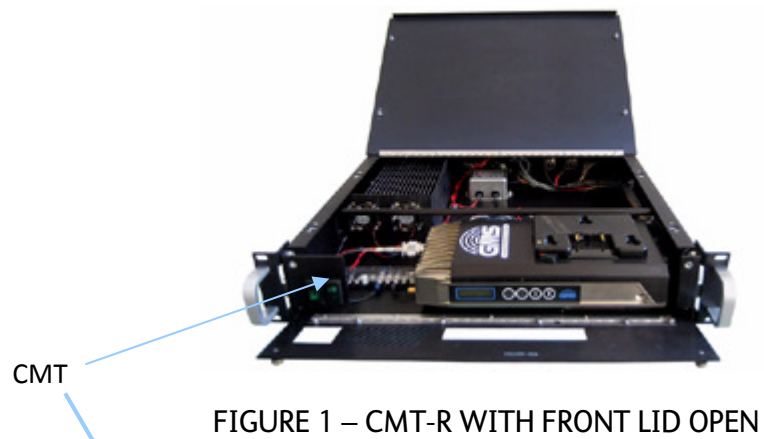
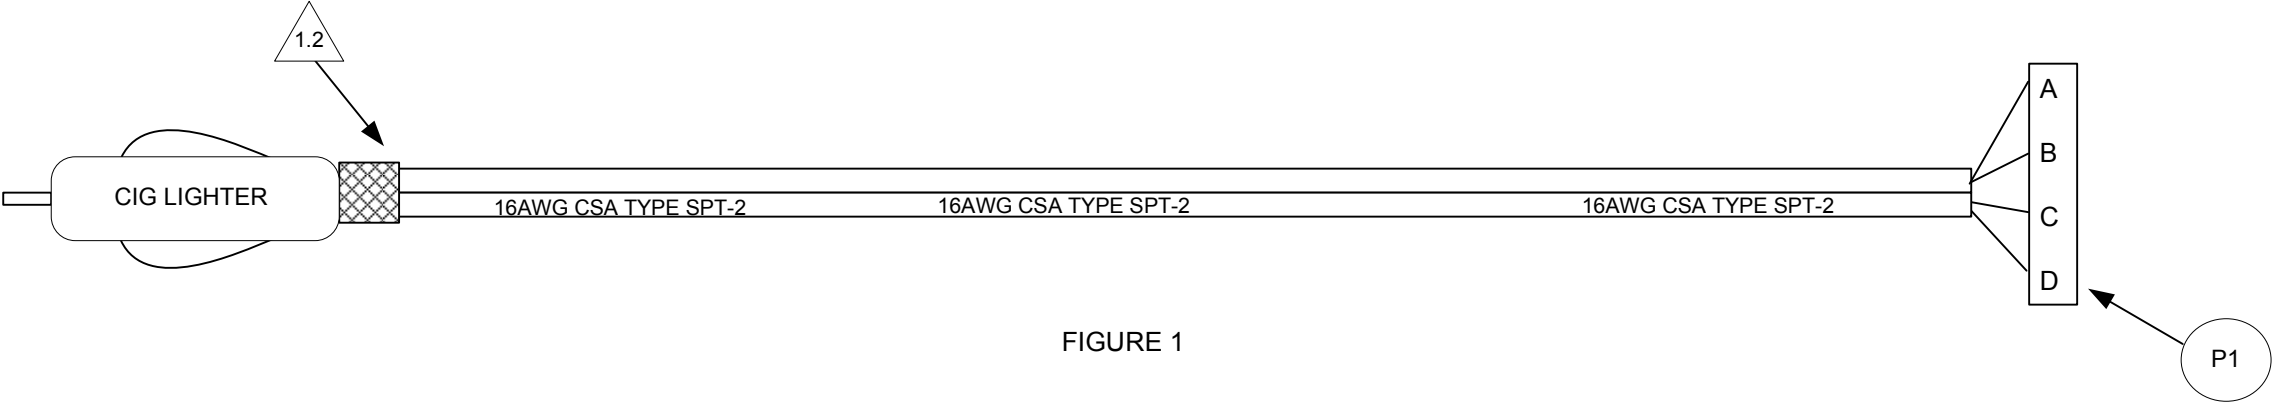

FIGURE 2- CMT WIRELESS CAMERA TRANSMITTER
FIGURE 1
Pull the CMT-R all the way forward out the rack (see Figure 1). Undo the quick release screws on the top cover and swing it up and out of the way. Unscrew the two thumbscrews on the front panel and let it roll forward giving you easily access to the transmitter. Ensure to disconnect all cables before releasing it from the battery mount plate (Anton Bauer or IDX) located on the bottom of the rack. The CMT can now be used as a stand-alone wireless HD/SD camera transmitter (see Figure 2).
1.3. REFERENCE SHEET 1 FIGURE 1 FOR CABLE WIRING DIAGRAM.